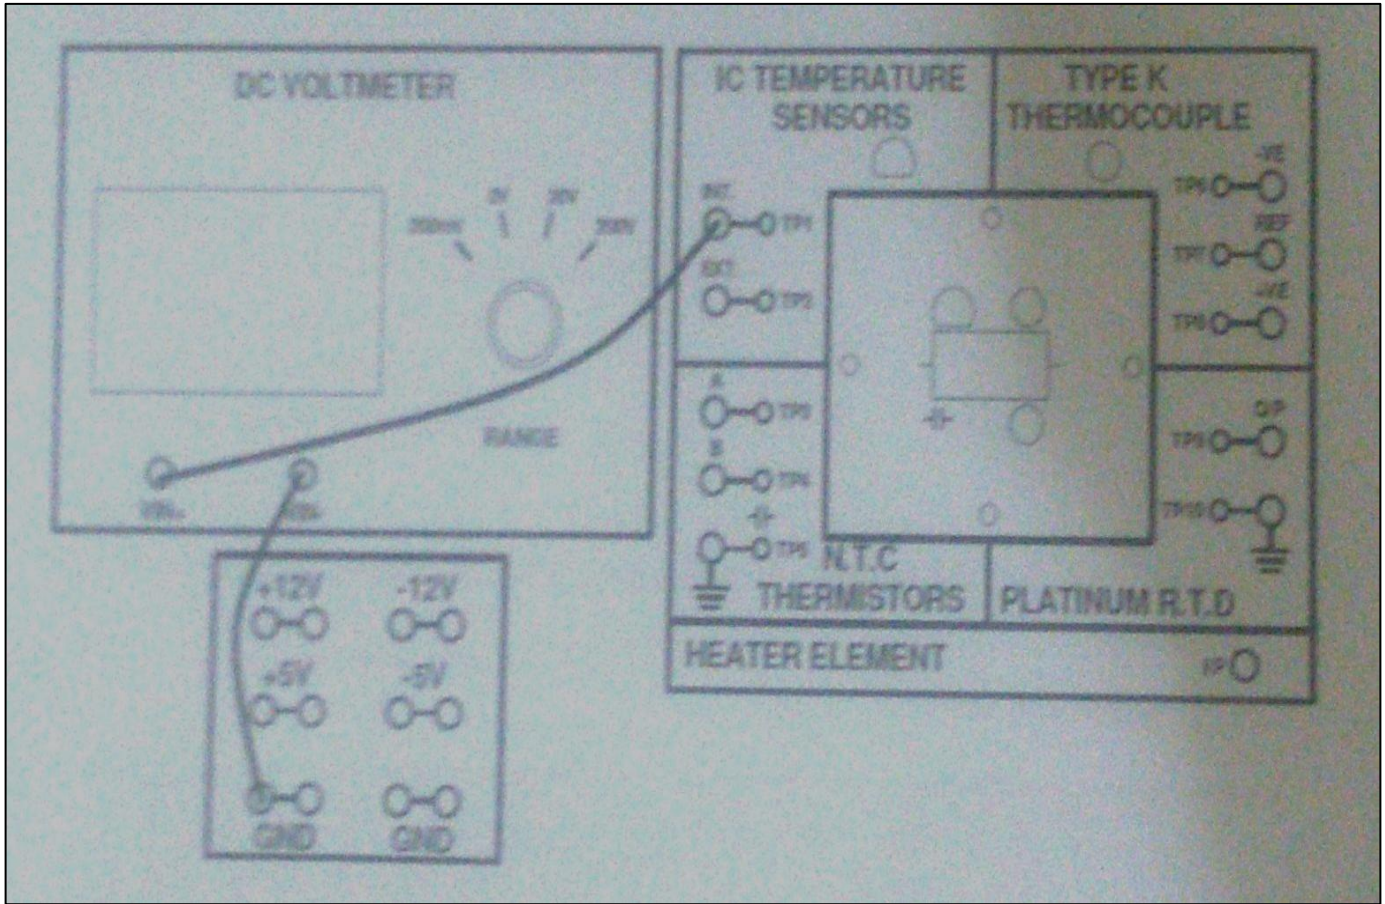

Figure 4.4 (Experimental Setup)
- Connect the voltmeter to the circuit as shown in Figure 4.4, switch the power supply ON and note the output voltage, this represents the ambient temperature in °C. Record this value.